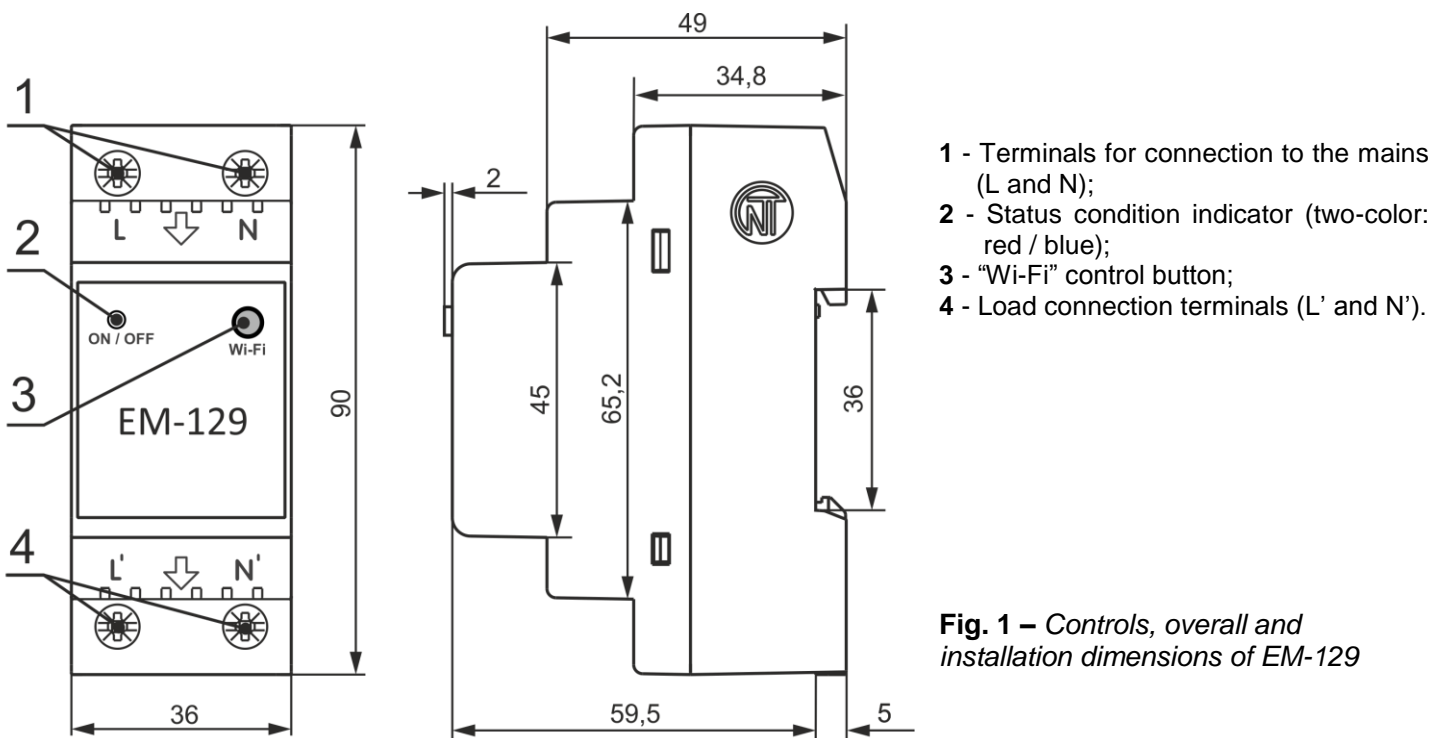

Fig. 1 – Controls, overall and installation dimensions of EM-129
Controls, overall and mounting dimensions of EM-129 are shown in Fig. 1.
Dimensions	See Fig.1
- 3.2.3 Close the circuit breaker. In this case, the status indicator (Figure 1, pos. 2) will begin to flash in blue.